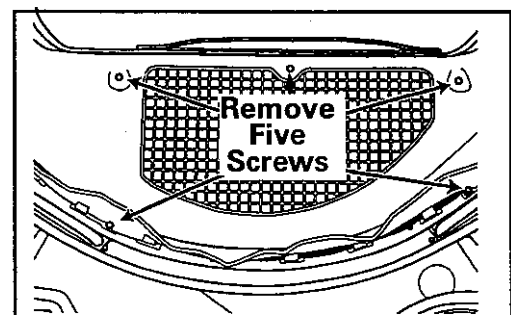

*Figure 10-1*
4. Remove six outer screws holding shroud and tumbler front assembly to the cabinet (*Figure 10-1*). The inner screws on the shroud will aid in reinstallation of shroud.